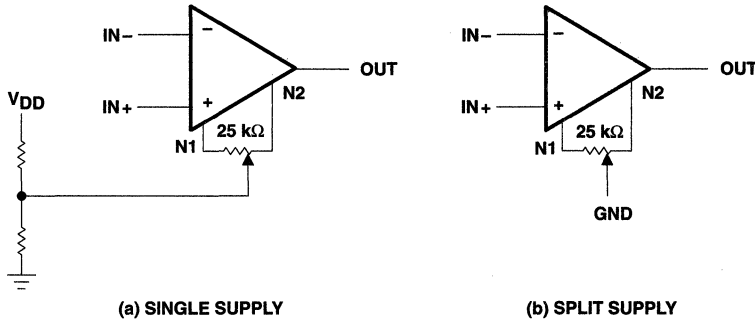

Figure 104. Input Offset Voltage Null Circuit
1. Power the linear devices from separate bypassed supply lines (see Figure 104); otherwise, the linear device supply rails can fluctuate due to voltage drops caused by high switching currents in the digital logic.